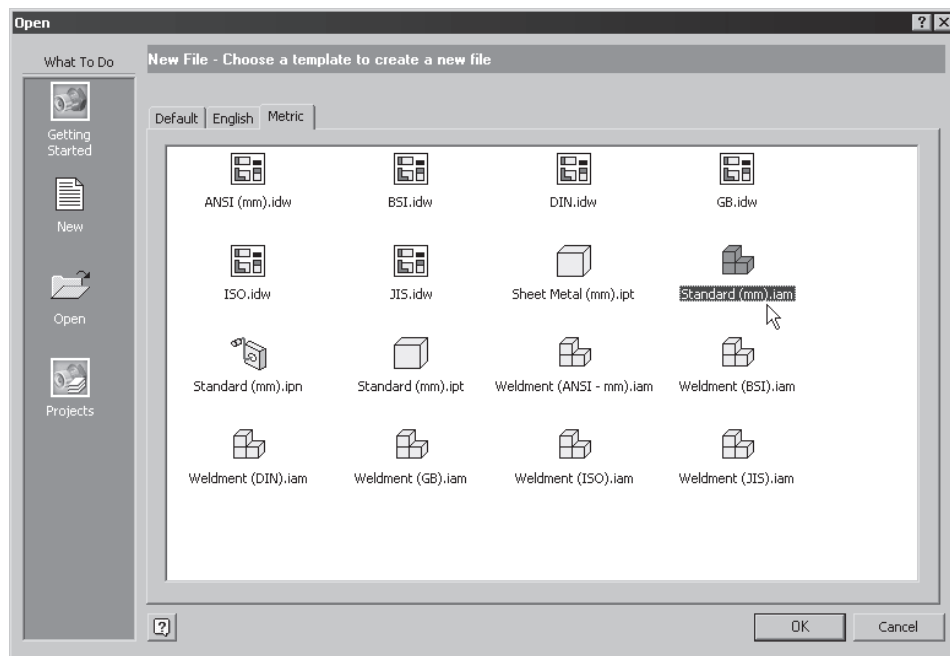

Figure 8-33 Starting a new metric assembly file using the **Open** dialog box
- Choose the **New** button from the **Inventor Standard** toolbar to invoke the **Open** dialog box. Double-click on **Standard (mm).iam** in the **Metric** tab (Figure 8-33) to start a metric assembly file. If you have started a new Autodesk Inventor session, this dialog box is automatically displayed.